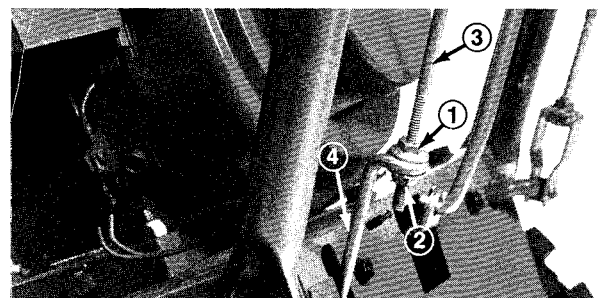
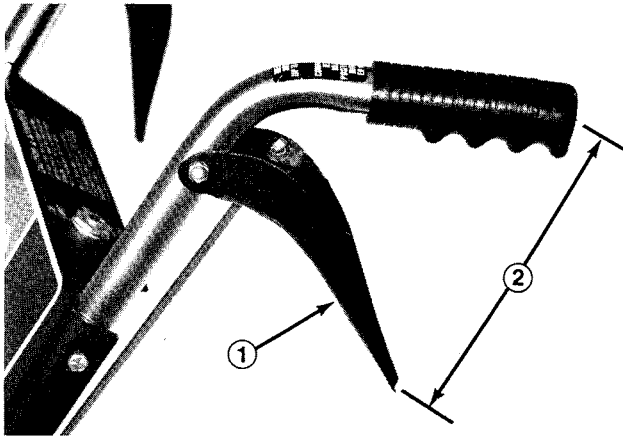

Figure 33
Figure 34
1. Loosen locknuts securing upper traction control rod to lower traction control rod (Fig. 33).
2. Adjust upper locknut (Fig. 33) until there is approximately 8 inches (20.3 cm) between the center of the handle and the tip of the traction control lever (Fig. 34).